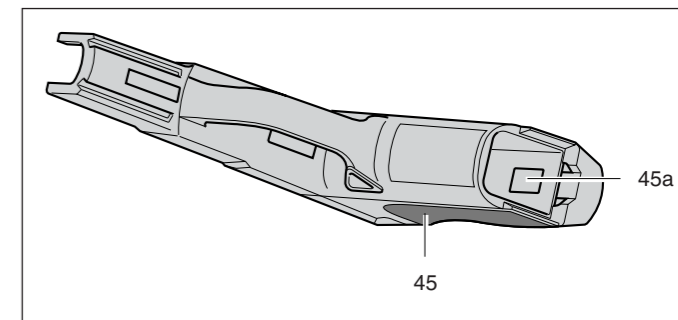

Fig. 13
9. Press the retaining lug **45a** in the well and remove the grip plate **45** (Fig. 13).